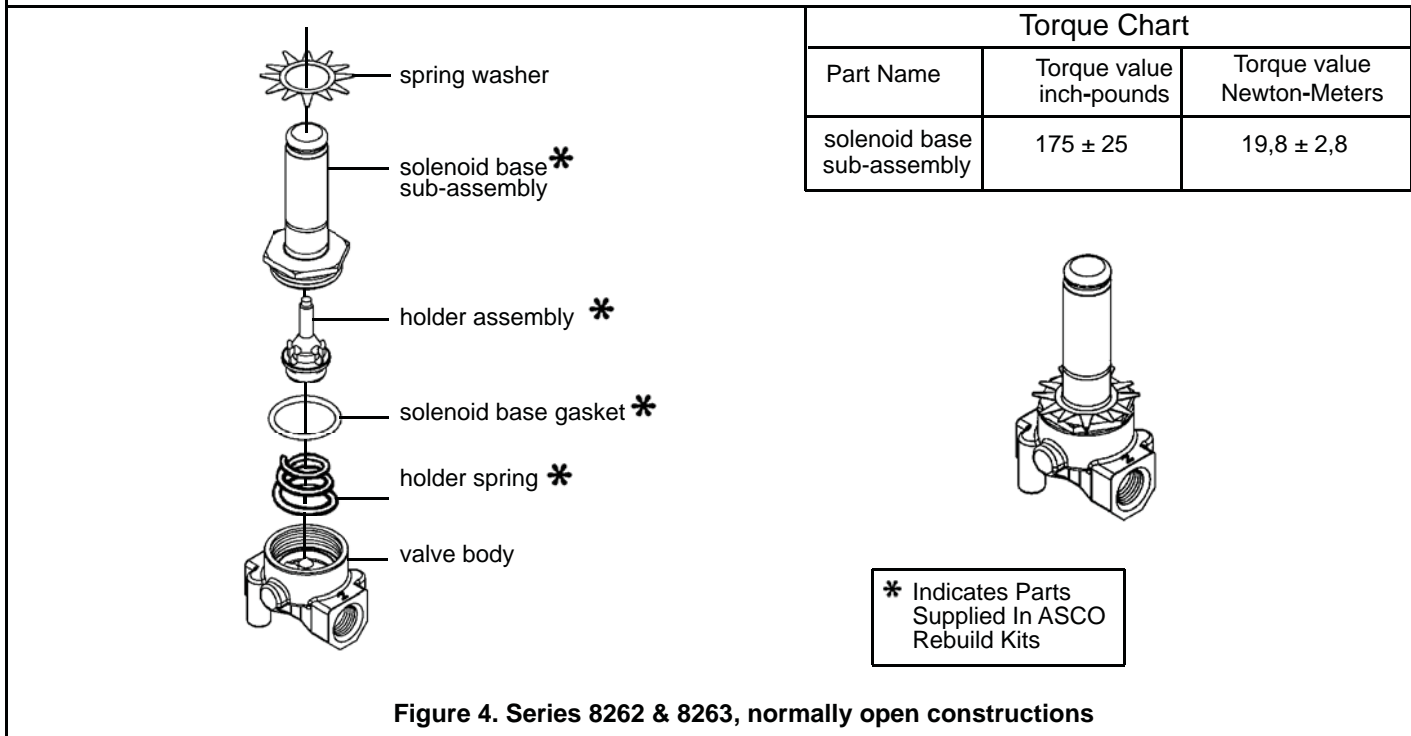

Figure 4. Series 8262 & 8263, normally open constructions
4. For normally open construction (Figure 4) remove spring and disc holder assembly.
3. For normally open construction (Figure 4), install disc holder assembly and disc holder spring.